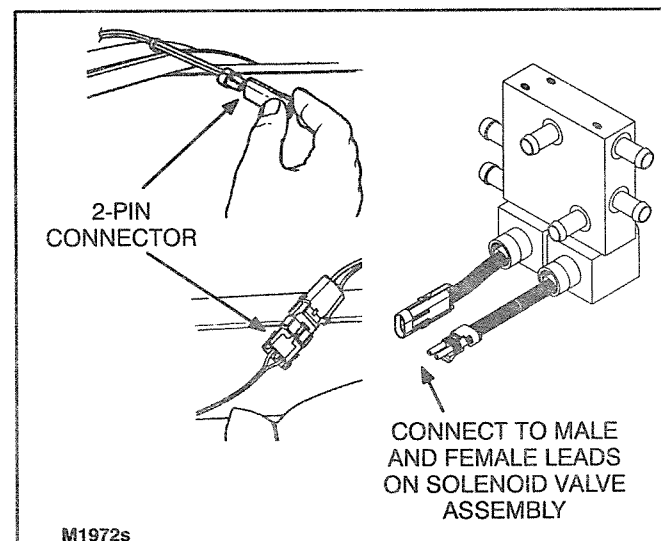

FIGURE 11-5. SOLENOID VALVE ASSEMBLY HARNESS CONNECTIONS
2. Connect the 2-pin connectors to the solenoid valve harness connectors (see Figure 11-5).